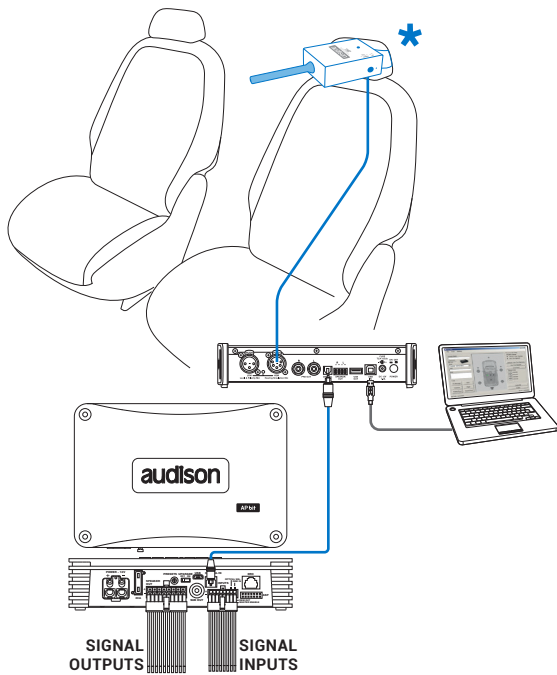

Fig. 1
The measurement of the sound pressure level is made in limited band. On the right there is a level scale. When opening the SPL Meter tool the microphone connected to the bit Tune is automatically detected, Dummy Head (fig.1), TMD (fig.2).
1. Connect the bit Tune to the AUX input of the Audison bit processor, as shown in fig. 1 or 2. The calibration operation must be carried out in the least possible noisy environment, with the car engine switched off, air conditioning off, doors and windows tightly closed and radio-frequency devices away from the passenger compartment of the vehicle.